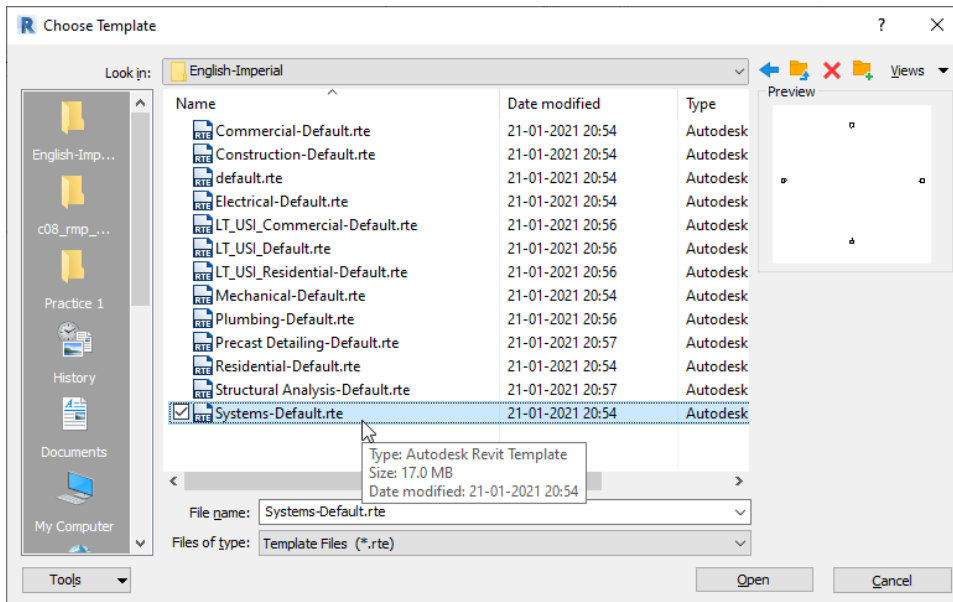

Figure 2-28 Selecting the *Systems-Default.rte* file from the **Choose Template** dialog box
2. In the **Choose Template** dialog box, select the **Systems-Default** template file from the list, as shown in Figure 2-28. For Metric system, select the **Systems-Default\_Metric** template file from the list. Choose the **Open** button the **Choose Template** dialog box is closed.